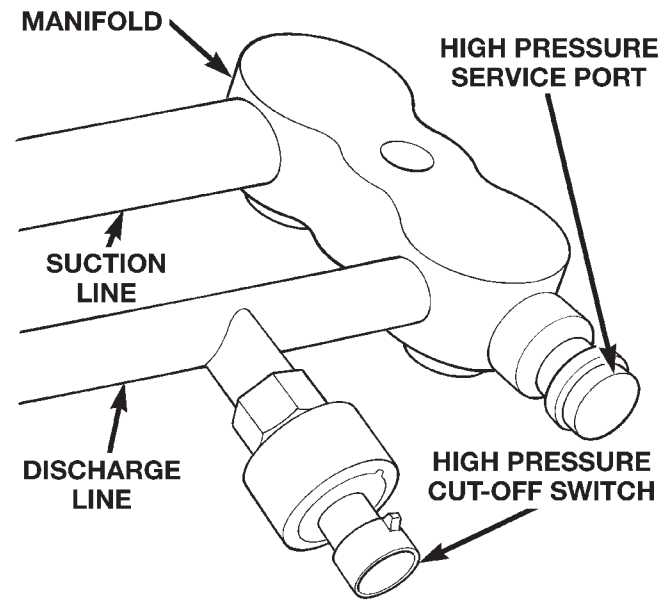

Fig. 58 High Pressure Switch - Typical
- (1) Disconnect and isolate the battery negative cable.
- (2) Unplug the wire harness connector from the high pressure switch, which is mounted to a fitting on the discharge line between the compressor, near the condenser inlet (Fig. 58).
- (3) Unscrew the high pressure switch from the discharge line fitting.
- (4) Remove the high pressure switch from the vehicle.
- (5) Remove the O-ring seal from the discharge line fitting and discard.